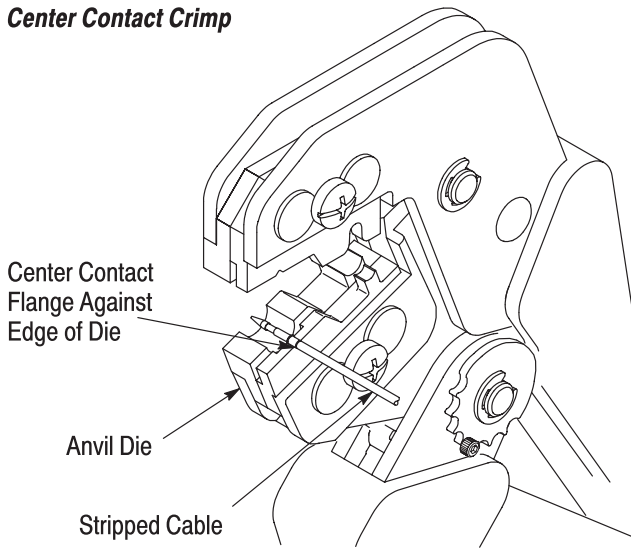

Figure 3
#### 4.1. Center Contact (Figure 3)
1. Slide center contact onto stripped conductor. Insert center contact assembly into the partially closed center contact crimping chamber on the anvil die. Make sure the center contact flange is against the edge of the die as shown in Figure 3.